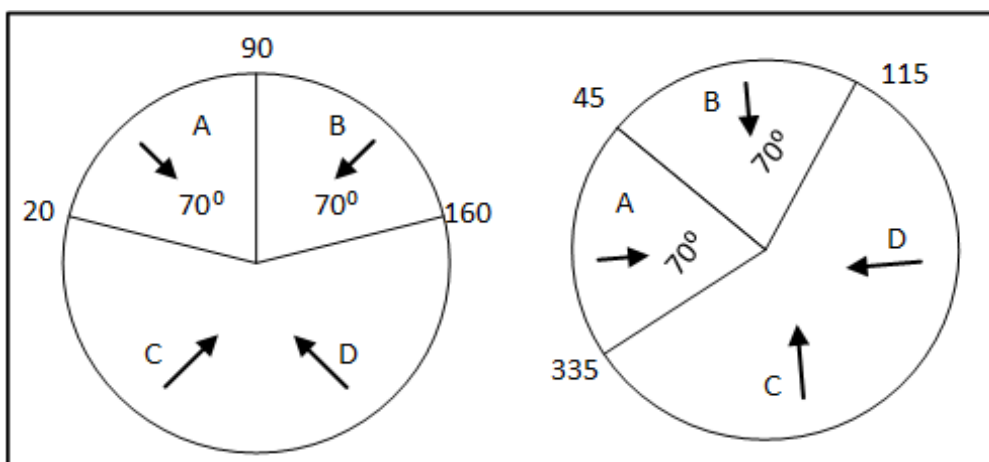

Figure 8: Wind Direction Sensor Definition (7.19)
- 7.19: The number entered here defines the area (the number entered $\pm 20^\circ$) (Figure 8).